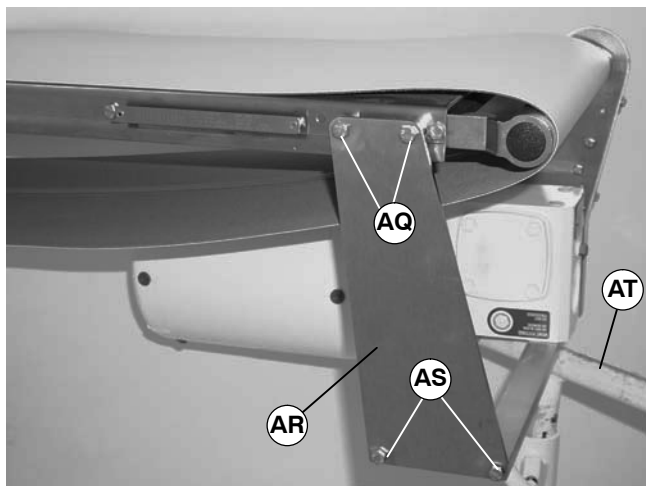

Figure 21
NOTE: For conveyor with a Heavy Load Bottom or Top Gearmotor Mounting Package, bracket (AR of Figure 21) must be removed.
The weight of the gearmotor is all on one end of the conveyor which could cause it to tip off the stands when the mounting clamp plates are loosened. Be sure to provide support (AT of Figures 21 and 22) underneath the gearmotor while changing the belt.
6. Place a temporary support (AT of Figures 21 and 22) under gearmotor mounting package.
6. For a conveyor with a Heavy Load Bottom or Top Mounting package, install bracket (AR of Figure 21).